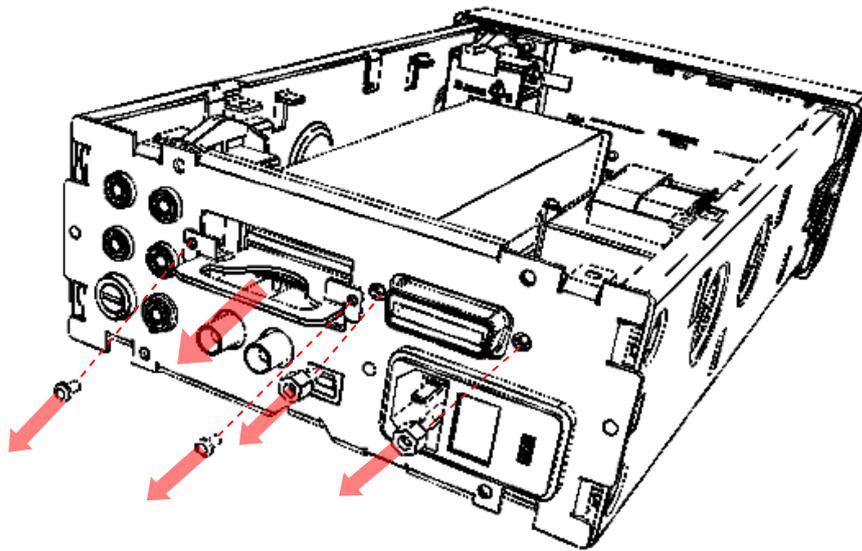

Figure 4-6
- Remove two fasteners of GPIB card and two captive screws that secure the scanner card on the rear panel as shown in **Figure 4-6**. Pull out the scanner card gently.